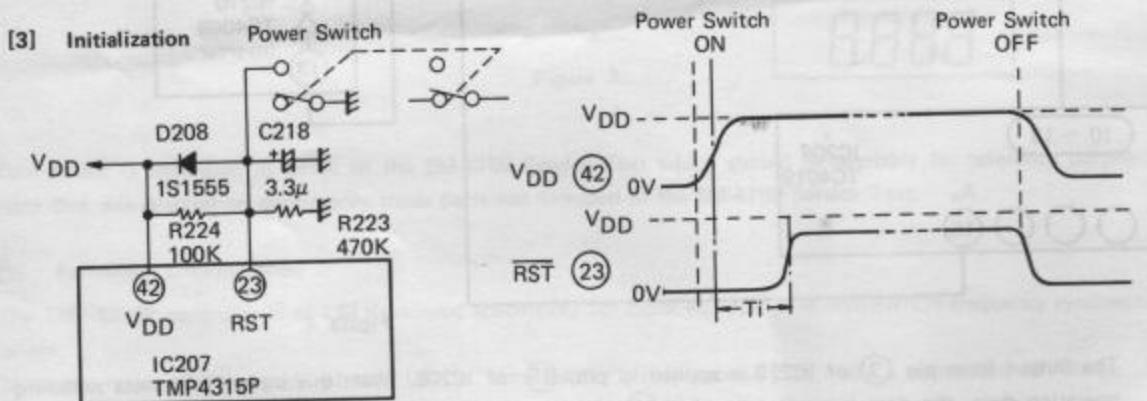

Figure 6.
- To initialize the IC207 LSI, it is essential that the voltages applied to pins ④2 and ②3 rise according to the timing shown in Fig. 6 above.
- If this timing is disrupted and pin ②3 voltage becomes positive, digits displayed will become completely meaningless and further operation will become impossible. If, however, voltage is again applied according to the above time relation, normal operation will be restored.